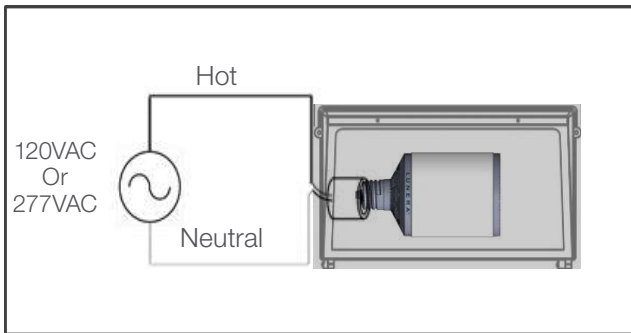

Figure 2: (Step 5) Bring Line Voltage to the Socket; Connect Hot to Black wire and Neutral to white wires connected to Mogul (E39) / Medium (E26) Base Socket.
- Step 5: Connect Hot (120VAC-277VAC) to black wire; and Neutral to white wire connected to Mogul or Medium socket (See Figure 2).